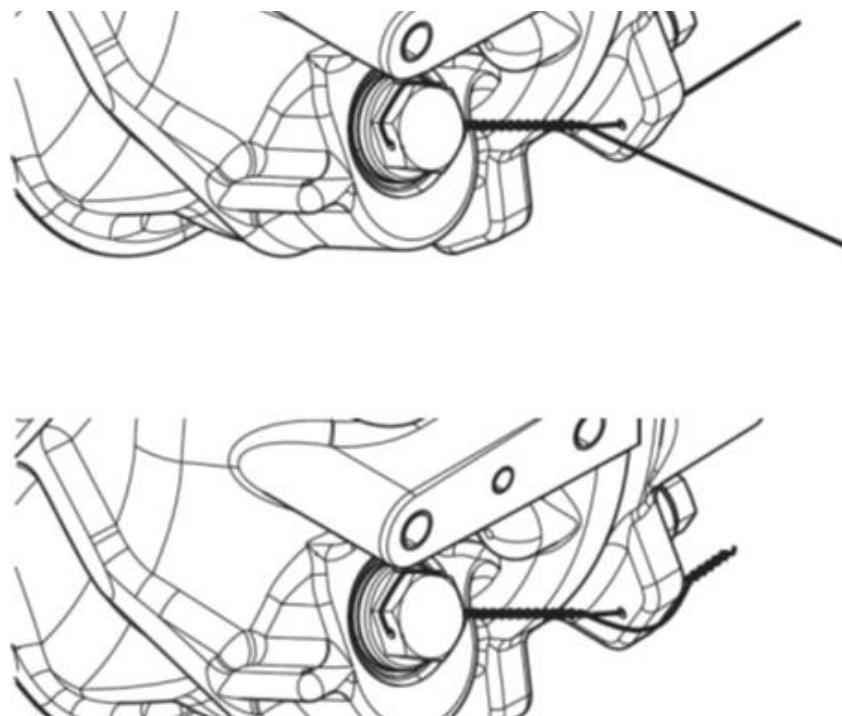

Figure 4-6: Lock Wire Installation (1)
7. Clean the oil filler plug (1) and screw in again with a new sealing ring. Tightening torque MA: 70 Nm, SW 24.
8. Install safety wire as seen in Figure 4-6 and 4-7.